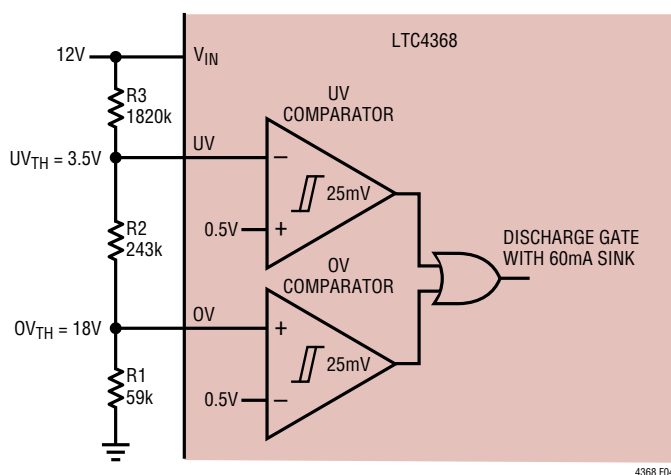

Figure 4. UV, OV Comparators Monitor 12V Supply
The LTC4368 provides two accurate comparators to monitor for overvoltage (OV) and undervoltage (UV) conditions at V_{IN} . If the input supply rises above the user adjustable OV threshold, the gates of the external MOSFETs are quickly turned off, thus disconnecting the load from the input. Similarly, if the input supply falls below the user adjustable UV threshold, the gates of the external MOSFETs are quickly turned off. Figure 4 shows a UV/OV application for an input supply of 12V.
The external resistive divider allows the user to select an input supply range that is compatible with the load at V_{OUT} . Furthermore, the UV and OV inputs have very low leakage currents (typically $< 1nA$ at $100^\circ C$), allowing for large values in the external resistive divider. In the application of Figure 4, the load is connected to the supply only if V_{IN} lies between 3.5V and 18V. In the event that V_{IN} goes above 18V or below 3.5V, the gate of the external N-channel MOSFET is immediately discharged with a 60mA current sink, thus isolating the load from the supply.
The following 3-step procedure helps select the resistor values for the resistive divider of Figure 4. This procedure minimizes UV and OV offset errors caused by leakage currents at the respective pins.
The example of Figure 4 uses standard 1% resistor values. The following parameters were selected: